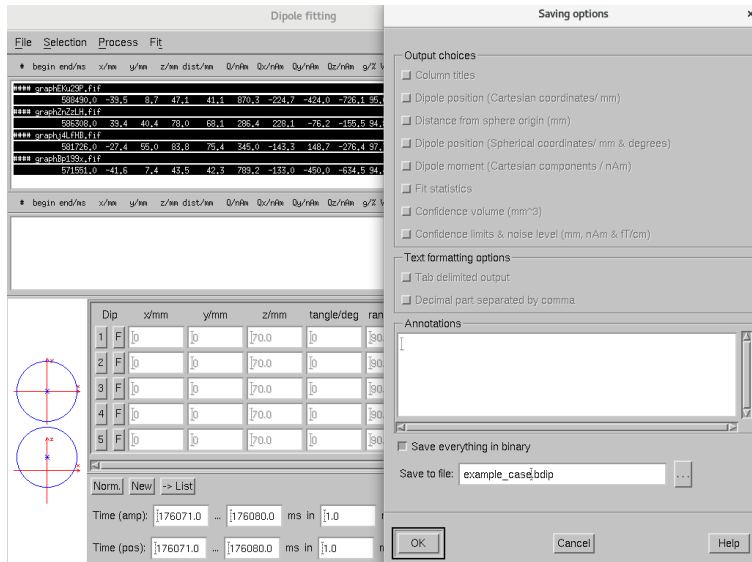

Figure 39: Selected dipoles can be saved to a binary or ASCII file.
- Saved binary (*.bdip) and ASCII (*.dip) files can be loaded back into *Mrilab* by selecting **File -> Import -> Dipoles (Alt-f + i + d)** (Figure 39).